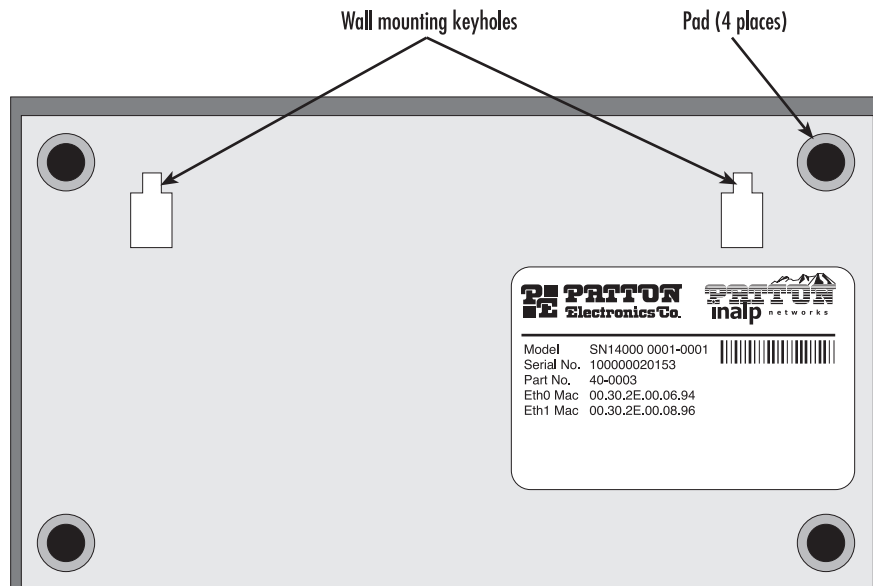

Figure 34. Pads and wall-mounting keyholes locations
1. Remove one of the rubber pads from the adhesive strip (included in the SmartNode installation kit pack) and place it on a corner on the bottom of the SmartNode 1200 (see figure 34).
2. Install the (user-provided) wall anchors. Any standard anchoring method may be used, such as wood screws; butterfly anchors/molly bolts (for installation into a sheetrock/drywall or plasterboard surface); or expansion bolts (for installation into a concrete or masonry surface). The anchor screw heads must have just enough clearance to allow the wall-mounting key holes (see figure 34 on page 69) to slip onto them when hanging the SmartNode 1200.